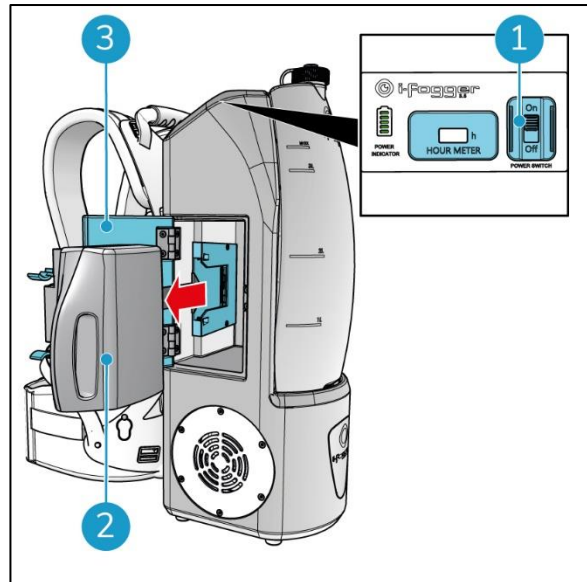

Figure 16
6. Press the ON/OFF switch (Figure 16, pos 1) to turn off the i-fogger.
8. Open the hatch (Figure 16, pos 3).
9. Slightly press the plastic clips together and remove the battery (Figure 16, pos 2).